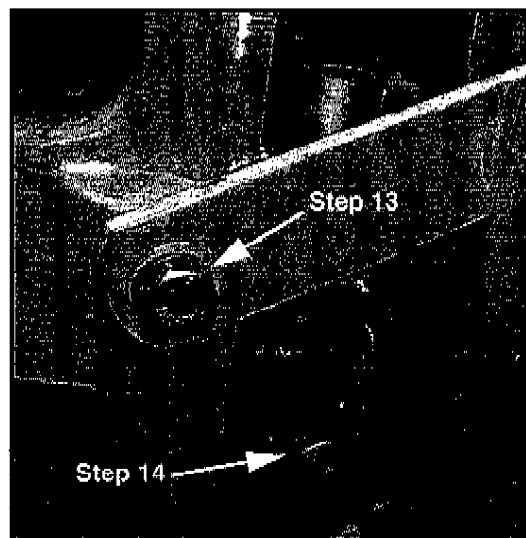

FIGURE 4
13. Refer to Figure 4. On both left and right sides of the engine mount, remove the bolt, lock washer, flat washer, spacer and flat washer securing the yoke bracket to the engine mount.
14. On both left and right sides of the transmission housing, loosen the jam nut and remove the bolt securing the engine mounting bars to the transmission case. See Figure 4.